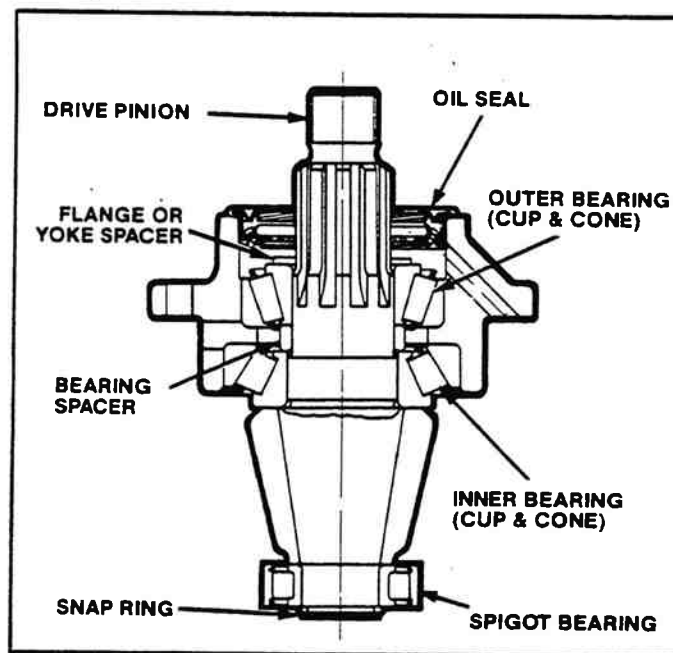
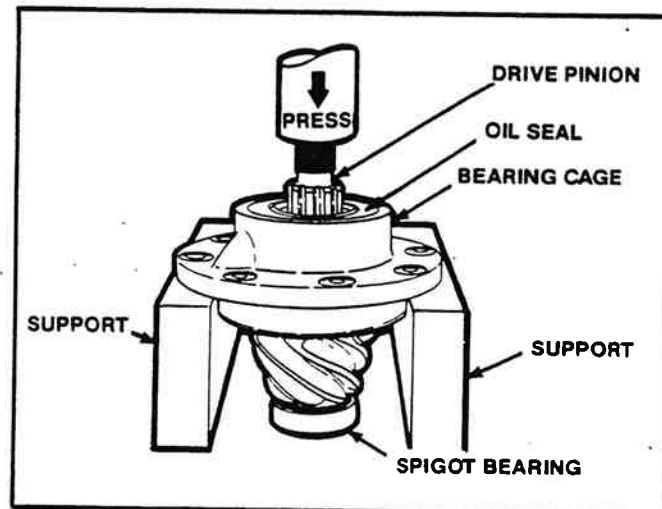

Figure 2-26. Pinion And Bearing Cage Assembly.
Figure 2-27. Removing Drive Pinion From Bearing Cage.
1. Put the drive pinion and bearing cage (figure 2-26) in a press. The pinion shaft must be toward the top of the assembly. Support the bearing cage under the flange area with metal or wood blocks. Press the drive pinion through the bearing cage (Figure 2-27).